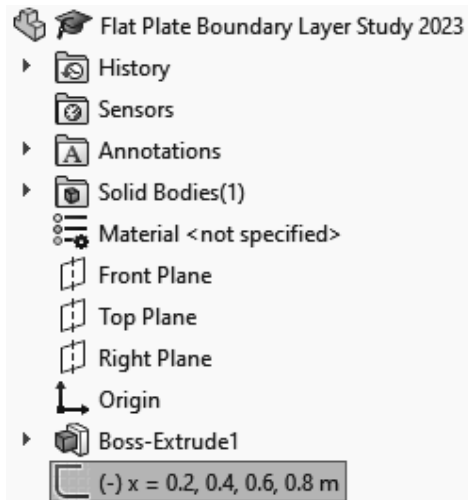

Figure 2.7 Renaming the sketch for boundary layer velocity profiles
7. Repeat step 6 three more times and add three more vertical lines to the sketch, the second line at $X = 400$ mm with a length of 40 mm, the third line at $X = 600$ mm with a length of 60 mm and the fourth line at $X = 800$ mm with a length of 80 mm. These lines will be used to plot the boundary layer velocity profiles at different streamwise positions along the flat plate. Close the **Line Properties** dialog ☒ and the **Insert Line** dialog. Save the SOLIDWORKS part with the following name: **Flat Plate Boundary Layer Study 2026**. Rename the newly created sketch in the **FeatureManager design tree**, see figure 2.7. You will need to left click twice to rename the sketch.